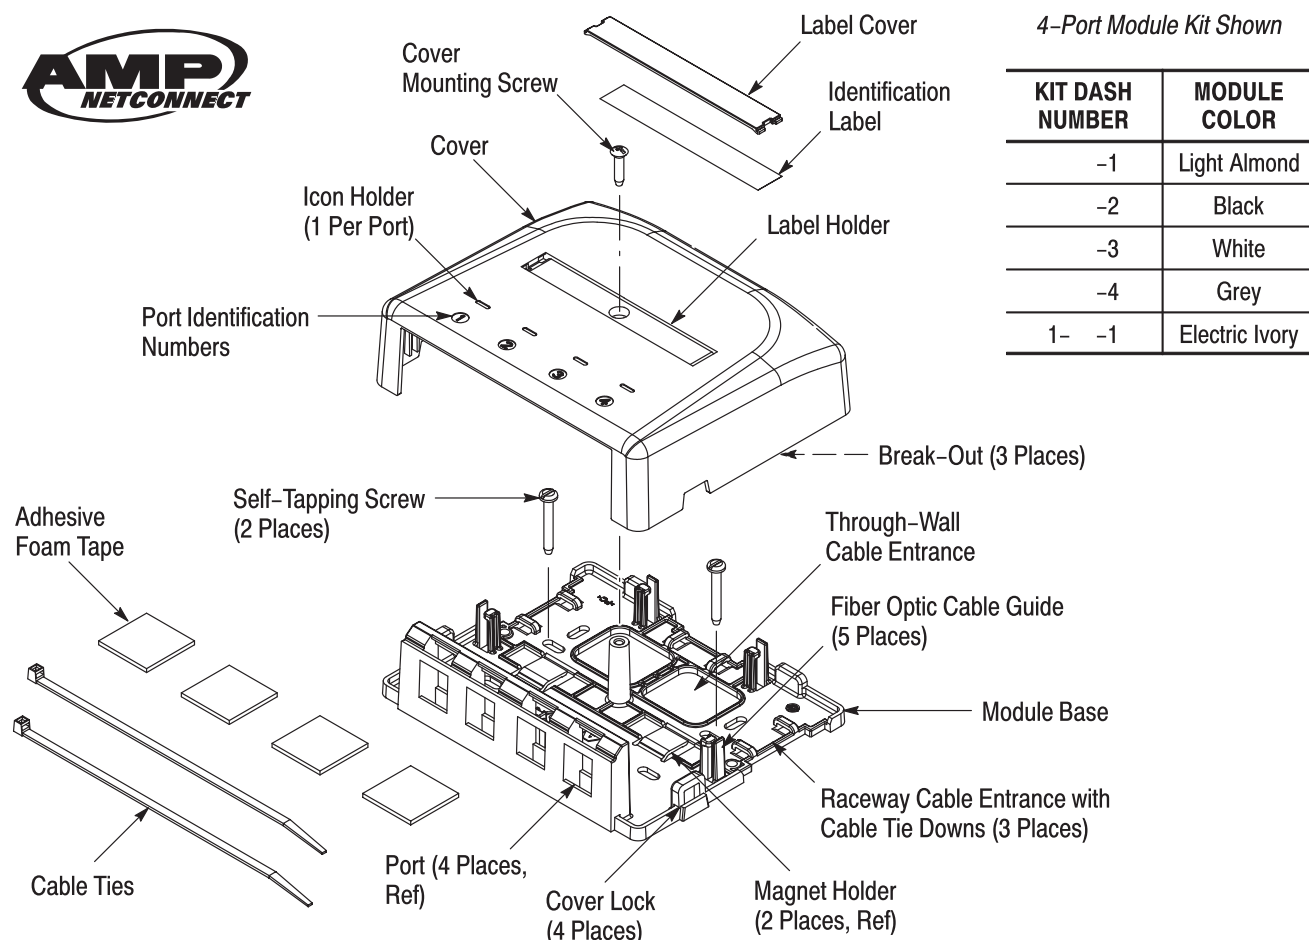

Figure 1
Module Kits 1933668-[], 1933671-[] (shown in Figure 1) and 1933674-[] are designed to house and protect connections for copper and fiber optic applications. The module kits accept any combination of AMP-TWIST* modular jacks, SL series modular jacks, copper and fiber optic multi-media inserts, and LC and MT-RJ outlet jacks.
1. Route the cable(s) through the through-wall cable entrance and/or raceway cable entrance of the module base (shown in Figure 1), and terminate the jacks or multi-media inserts to the cable according to the instructions packaged with the product.